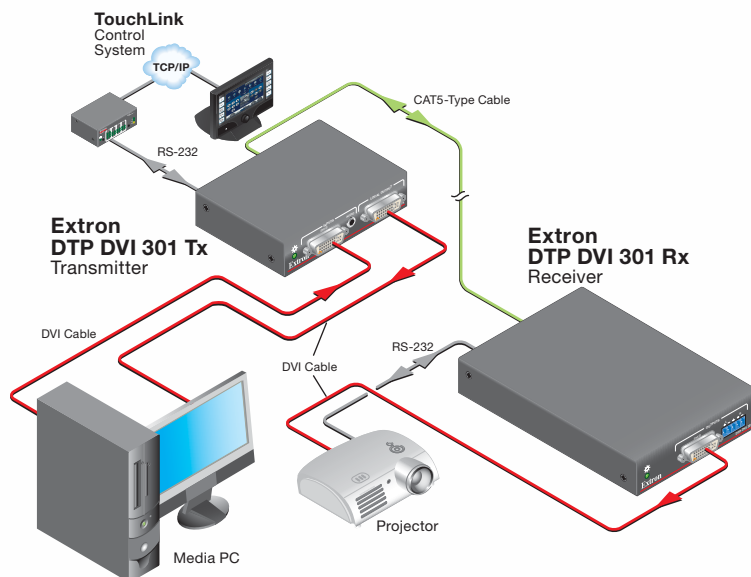

Figure 1. Typical Transmitter and Receiver Application
The Extron DTP DVI 301 Tx/Rx transmitter and receiver pair (see figure 1) extends the usable distance of DVI digital video, optional analog audio, and bidirectional RS-232 and infrared (IR) control signals over one or two Category (CAT) 5e, CAT 6, and CAT 6a unshielded twisted pair (UTP) or shielded twisted pair (STP) cables. The DTP DVI 301 can also extend HDMI video, which may include embedded audio, with the appropriate adapters. The video, audio, and control signals can be transmitted up to 330 feet (100 m).